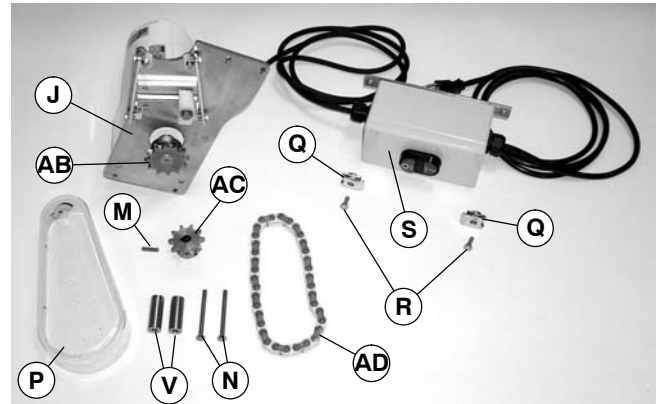

Figure 9
1. Typical components (Figure 9)
**NOTE: Figure 9 shows a 7300 Series drive mounting package with a timing chain and single-phase motor starter. Three-phase motor starter or VFD controller is similar. 7200 Series drive mounting package is similar.**
**NOTE: For a 7300 Series mounting package, install two 1.758" (44.7mm) long spacers (V of Figures 9 and 10) (shipped loose) between mounting plate/gearmotor assembly (J) and conveyor. On a 7200 Series (shown), two 0.438" (11.1mm) long spacers (V) are attached to the mounting plate/gearmotor assembly.**
3. Install mounting plate/gearmotor assembly (J) and spacers (see Note) with two screws (N). Tighten screws to 92 in-lb (10.4 Nm).